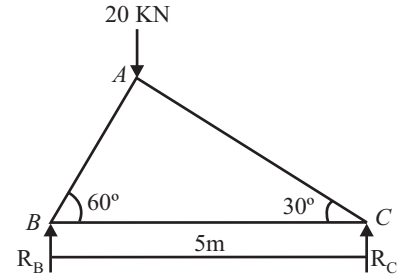

Fig. 13.6
Q. 9: Find the forces in the members AB, BC, AC of the truss shown in fig 13.6. C.O. Dec -04-05